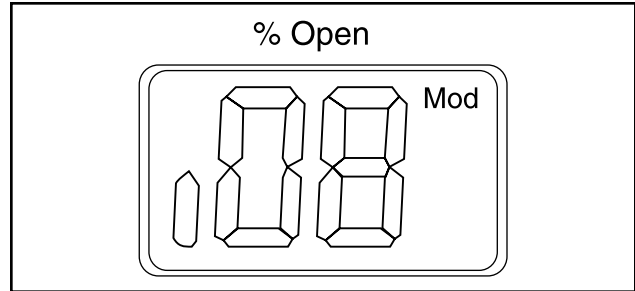

Figure 25
- Gives access to the Parameter list by keeping the push button activated for 2 seconds. A Parameter list example is shown below (parameter **i08**, Figure 25).
- Normally the Opening Degree (OD) 0 - 100% of the ICM valve is displayed. No activation of push buttons for 20 seconds means that the display will always show 0 (Figure 25).